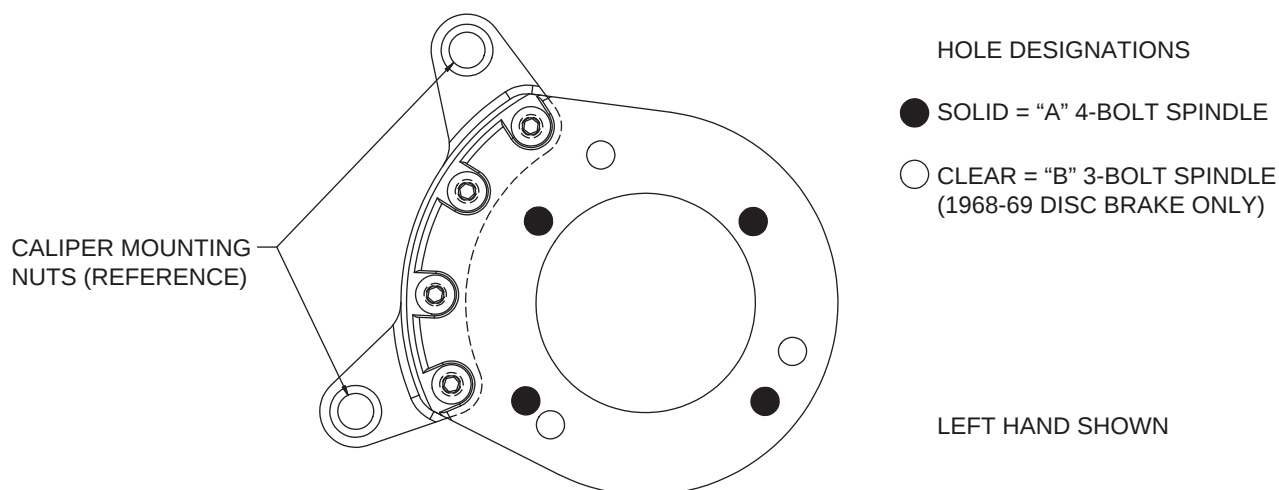
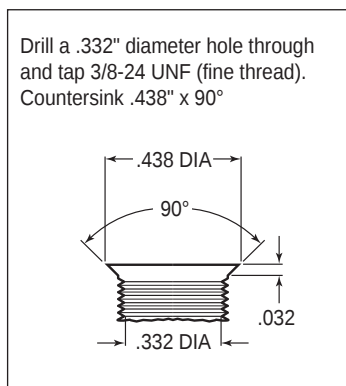
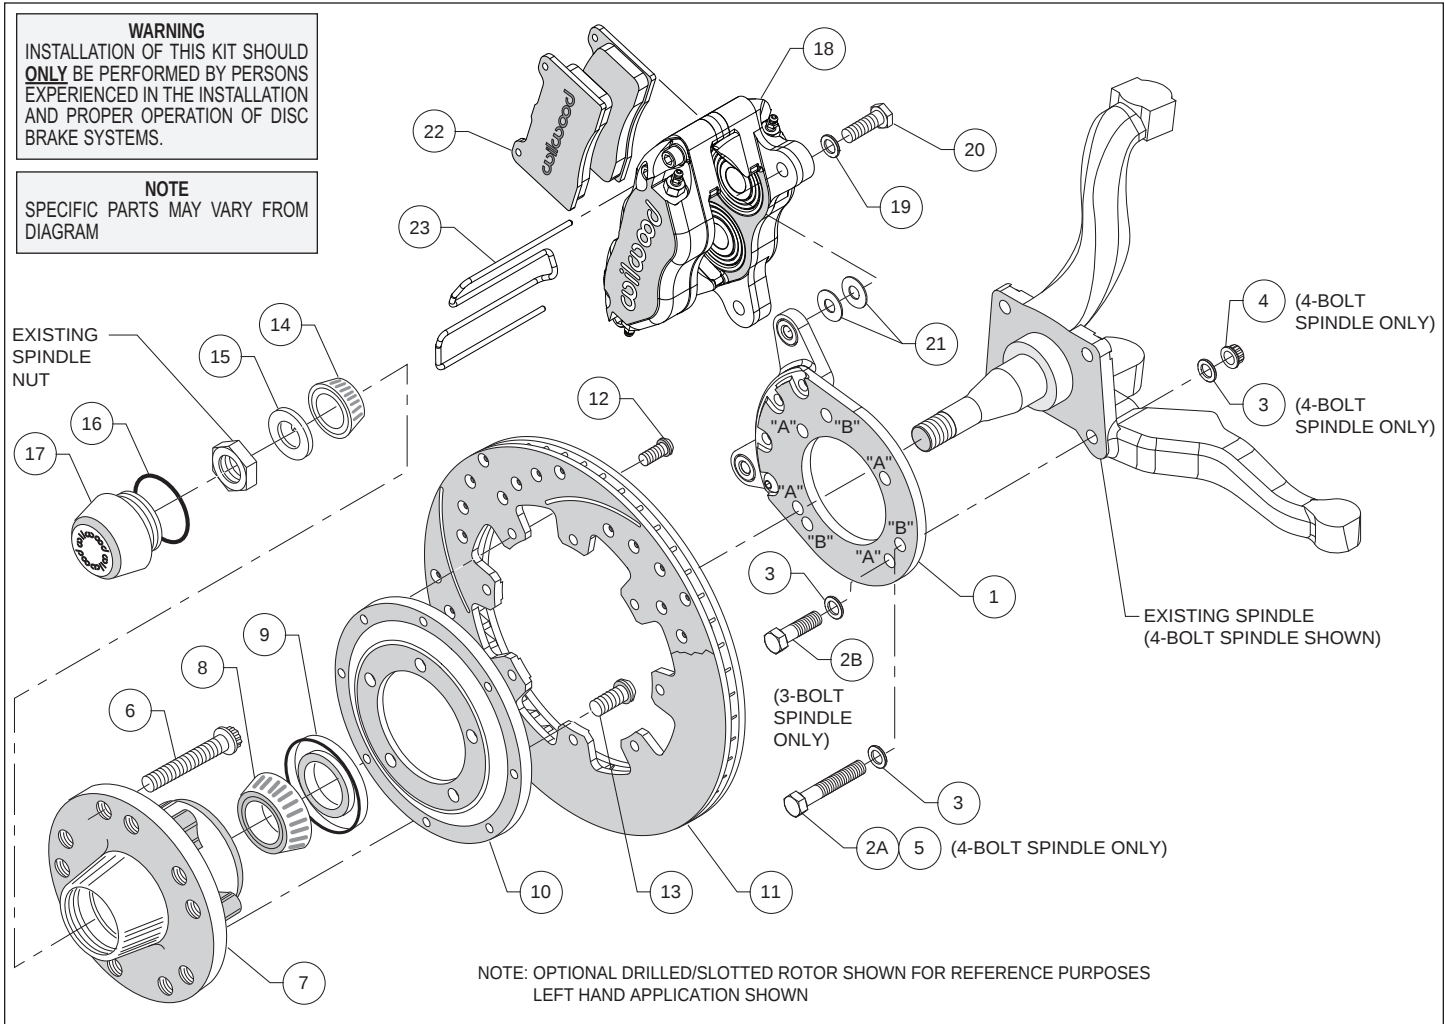
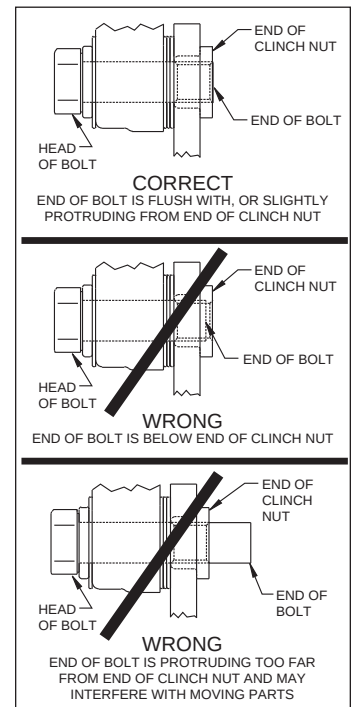

Figure 1. Wilwood Caliper Mounting Bracket
Figure 2. Drill and Tap Detail
Figure 4. Typical Installation Configuration
Figure 5. Clinch Nut Engagement Diagram
This kit has been designed for use with both three and four bolt spindle configurations. The only difference is in how the Wilwood caliper mounting bracket is installed. The same bracket is used for both configurations; only the 1968-69 disc brake spindle utilizes three mounting holes while all other spindles use the four mounting holes (see Figure 1). For your convenience we have supplied bolt kits for both applications (see parts list and Figure 4 as necessary). Use the bolt kit that is applicable to your vehicle and disregard the other one.
Using the caliper mounting bracket as a template (refer to Figure 1 as necessary), locate and verify the three original holes on the spindle that need to be modified. Drill a .332" diameter hole through all three holes, then tap 3/8-24 UNF (fine thread). Countersink the holes to .438" diameter x 90°, as shown in Figure 2.
Assembly Instructions (numbers in parenthesis refer to the parts list, and Figure 4 on the preceding pages): **CAUTION:** All mounting bolts must fully engage clinch nuts. Be sure to check that all bolts are either flush or protruding through flanged side of clinch nut after shimming, Figure 5.
•**NOTE:** This kit uses the same mounting bracket (1) for both the three and four bolt brake spindles. The 4-bolt version, Photo 1, uses four mounting bolts (designated "A"), while the 3-bolt version, Photo 2, uses three (designated "B"). Refer to Figures 1 and 4 for the basic installation position of the bracket and the "A" and "B" reference designations (not physically marked on the brackets).
For 4-Bolt Spindle: Align bracket, using the four "A" holes, to the face of the spindle and attach using bolts (2A and 5), washers (3), and lock nuts (4), as shown in Figure 4. Ensure that the flanged heads of the clinch nuts in the bracket are facing outboard, Photo 1. Torque lock nuts to 30 ft-lb.
For 3-Bolt Spindle (1968-69 Disc Brake): Align bracket, using the three “B” holes, to the face of the spindle and attach using bolts (2B) and washers (3), as shown in Figure 4. Finger tighten. Ensure that the flanged heads of the clinch nuts in the bracket are facing outboard, Photo 2. Remove bolts one at a time, apply red *Loctite*® 271 to threads, and torque to 40 ft-lb.
- Orient the rotor (11) and the rotor adapter (10) as shown in Figure 4 and Photo 5. Attach the rotor to the adapter using bolts (12). Using an alternating sequence, apply red *Loctite*® 271 to the threads, and torque to 25 ft-lb.
- Mount the adapter/rotor assembly (10/11) to the hub (7) using bolts (13), as shown in Figure 4 and Photo 6. Using an alternating sequence, apply red *Loctite*® 271 to the threads, and torque to 45 ft-lb.
- Pack the small outer bearing cone (14) with high temperature disc brake bearing grease and install into hub (7). Slide the hub/rotor assembly onto the spindle. Secure using spindle washer (15) and OEM spindle nut, Photo 7. Adjust bearings per OEM specifications. Install saved OEM nut lock (if any) and a new cotter pin (not included).
- NOTE:** Please reference the caution statement at the beginning of the assembly instructions. Mount the caliper (18) onto the caliper mounting bracket (1) using bolts (20) and washers (19), as shown in Figure 4. Initially place two .035" thick shims (21) on each bolt between the caliper and the bracket, Photo 9. Temporarily tighten the mounting bolts and view the rotor (11) through the top opening of the caliper. The rotor should be centered in the caliper, Photo 10. If not, adjust by adding or subtracting shims between the bracket and the caliper. Always use the same amount of shims on each of the two mounting bolts. **NOTE:** The end of each bolt must be flush with or slightly protruding from the head of the clinch nut, as shown in Figure 5. If necessary place spare shims between washer (19) and caliper